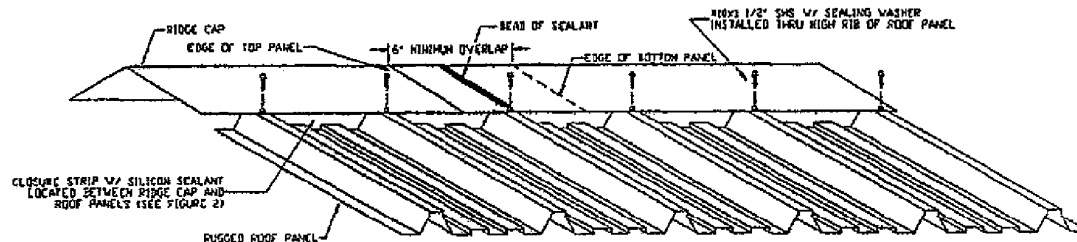

FIGURE 1: RIDGE CAP PLACEMENT
3. Once the two halves have been mated, install the ridge cap sections. Where possible, lap sections away from prevailing winds. Sections should be lapped approximately six (6) inches with a liberal bead of silicone placed perpendicularly across the area of the cap to be lapped. The 1 1/2" hex screws are used to secure the ridge cap to the roof panels. DO NOT reuse the screws which secured the temporary ridge cap, as the rubber washers may have fallen off. New screws have been included in the 'close-up' package. Screws are driven throughout the ridge cap into the rib or high part of the profile touching the ridge cap. Do not place screws between the panel ribs. Screws are driven into each rib approximately 1 1/2" to 2" back from the edge of the ridge cap (See figure 1). Make sure the rubber closure strip is in place when setting the ridge cap (See figure 2).